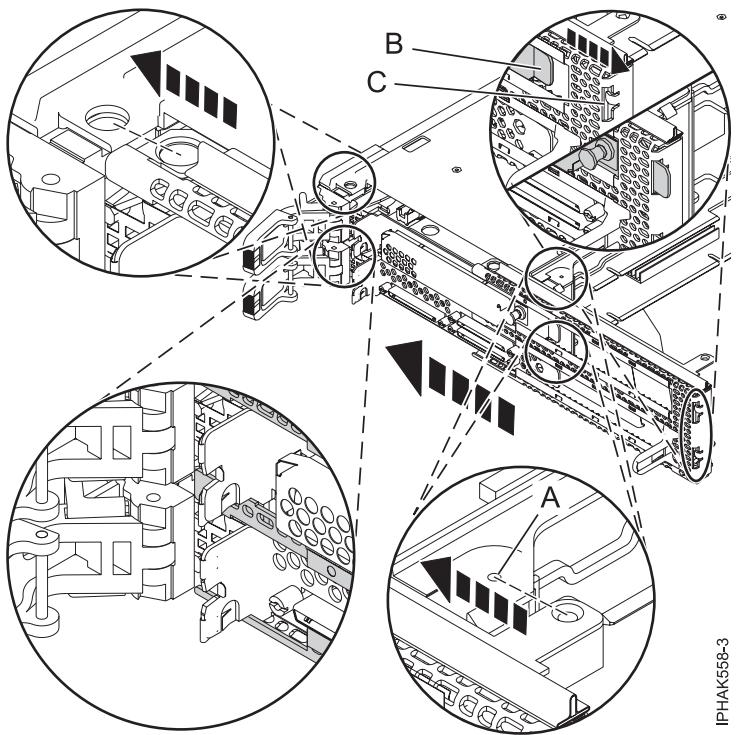

Figure 56. Attaching the face plate
7. Attach the face plate to the front of the cassette assembly as shown in Figure 56 on page 70. Then, insert the tab at the bottom of the cassette cover assembly into the notch on the face plate as shown in Figure 57 on page 70.